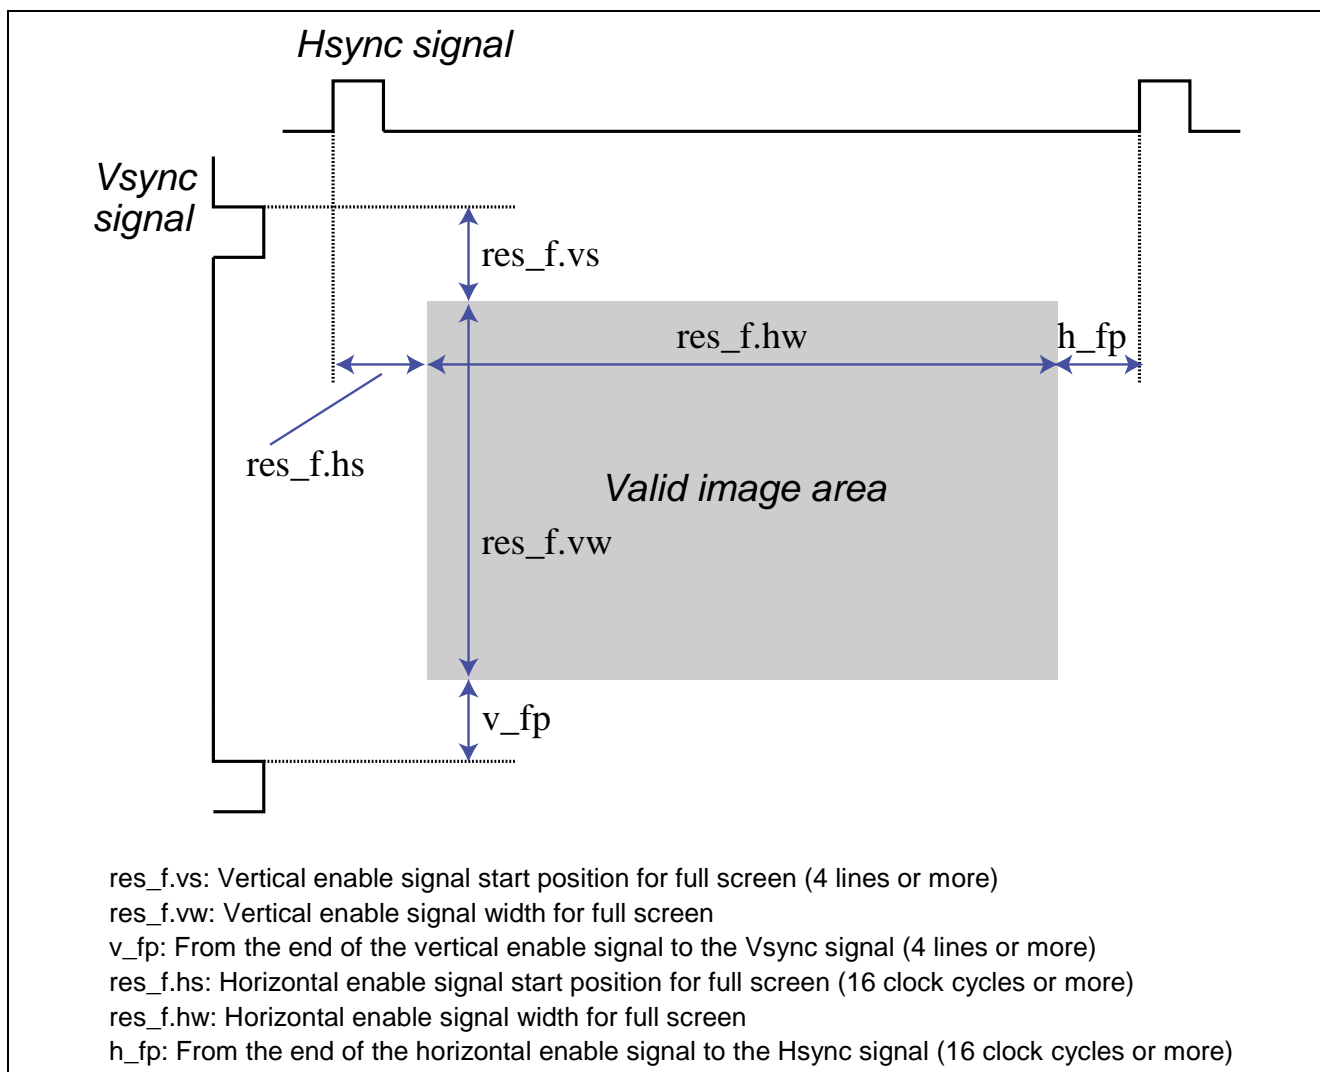

Figure 6-1 Full Screen Enable Settings
vdc_period_rect_t res_f	Full-screen enable signal See 5.3(1) for the structure. res_f.vs should be 4 lines or more and res_f.vs + res_f.vw should be equal to or less than 2039 lines. res_f.hs should be 16 clock cycles or more and res_f.hs + res_f.hw should be equal to or less than 2015 clock cycles. See also Figure 6-1 and its explanation for these settings.
Figure 6-1 shows the valid period of the full-screen enable and the output image. The 16 clock cycles before and after the Hsync signal and the 4 lines before and after the Vsync signal are not included in the valid period of the image.